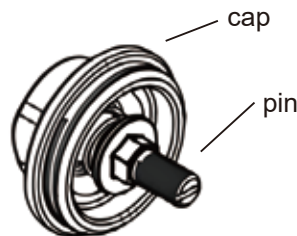

Fig 2
- **Note:** If the cap matches Fig. 2, proceed with conversion. If it resembles Fig. 3, no changes are needed - reinstall the cap.